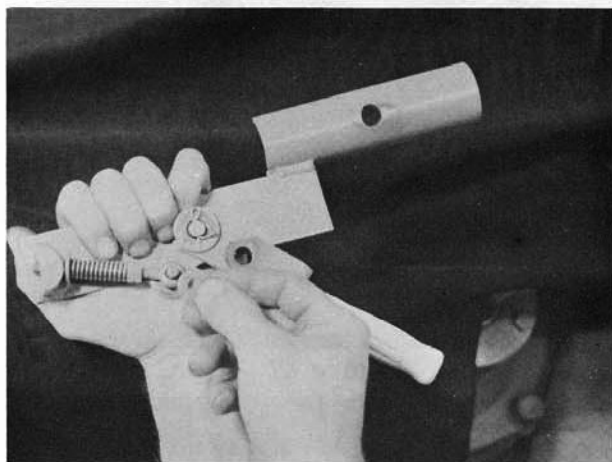

Figure 50
28. Place Toggle Spring and Flat Washer over the Lock Spring Guide and fasten to the Shift Handle as in Figure 50. Be sure to put Toggle Spring through the guide before you lock it with the cotter pin.